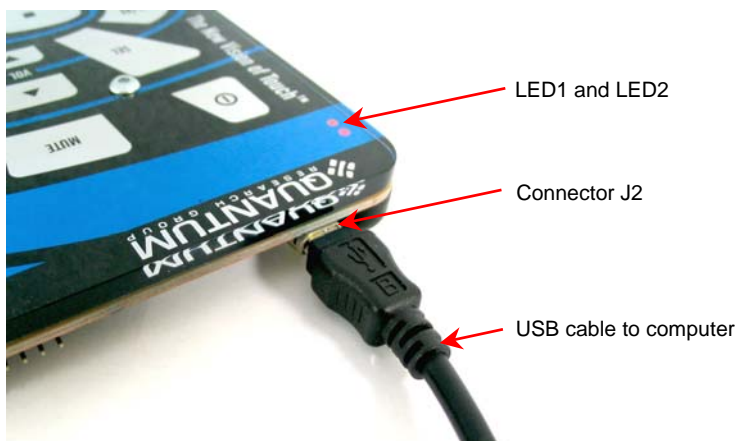

Figure 2: E6240 Connections
1. Using the USB cable provided, connect the E6240 to the computer (see *Figure 2*). Both LEDs on the E6240 light constantly to indicate that there is power to the assembly.